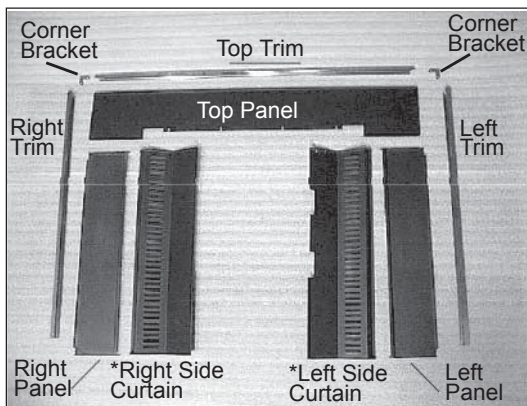

Figure 24.1
1. Unpack and lay out parts face down (flanges up) on a non-abrasive surface as shown in **Figure 24.1**. Install (1) 8-32 x 3/8 inch screw into bottom tab of side panel.